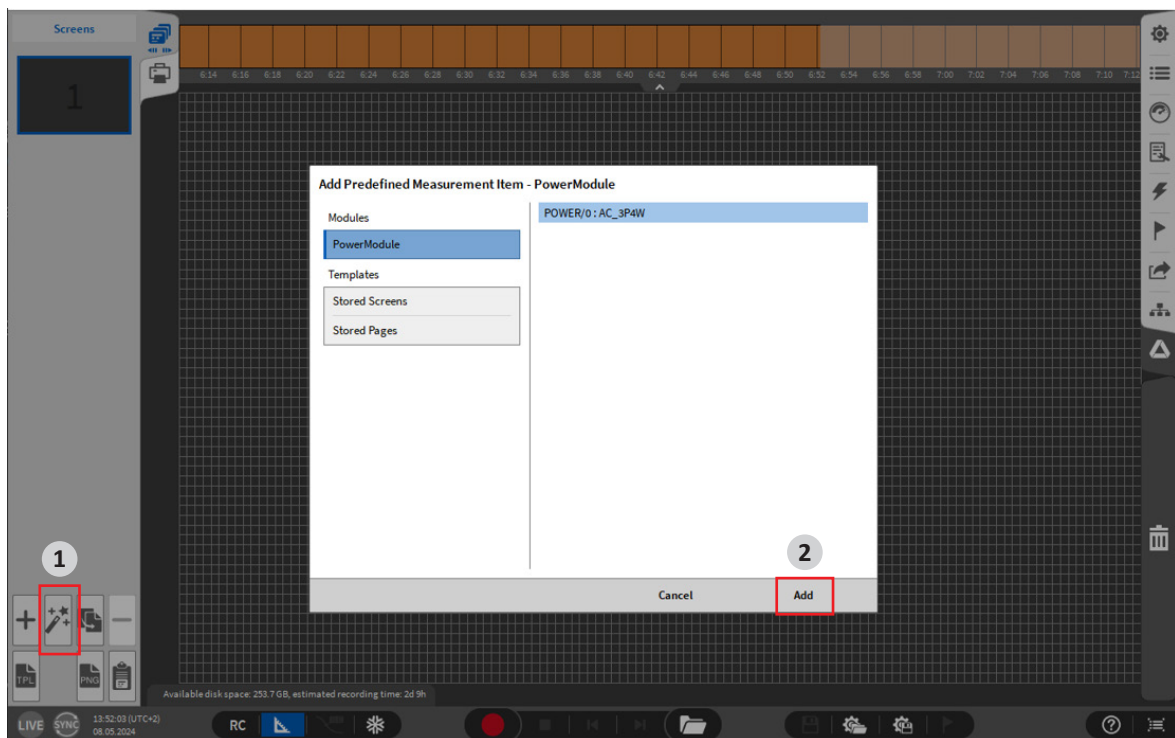

Fig. 25: Place the Power instrument with a template (1)
1. Open the screens overview and click on the magic wand symbol, see ① in Fig. 25.
2. Choose the desired Power Group and press “add”, see ② in Fig. 25.